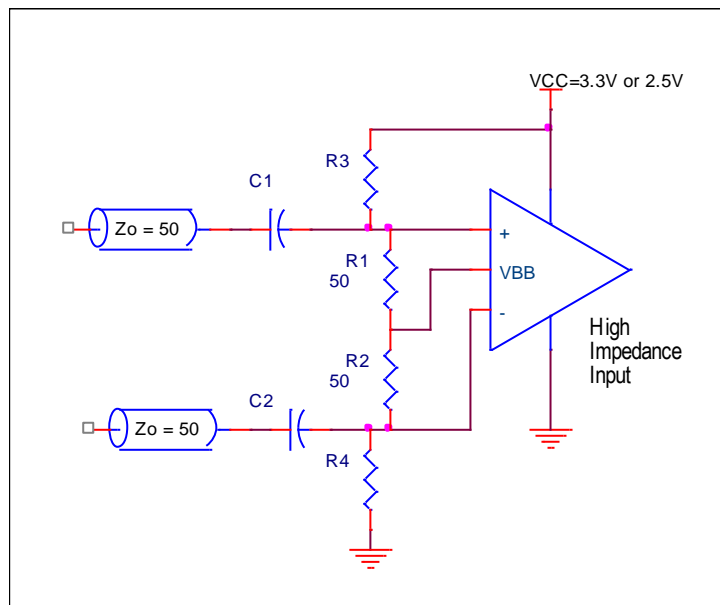

Figure 5. Example 1 – 853S01 Input Interface
- Figure 5. Example 1 – 853S01 Input Interface4